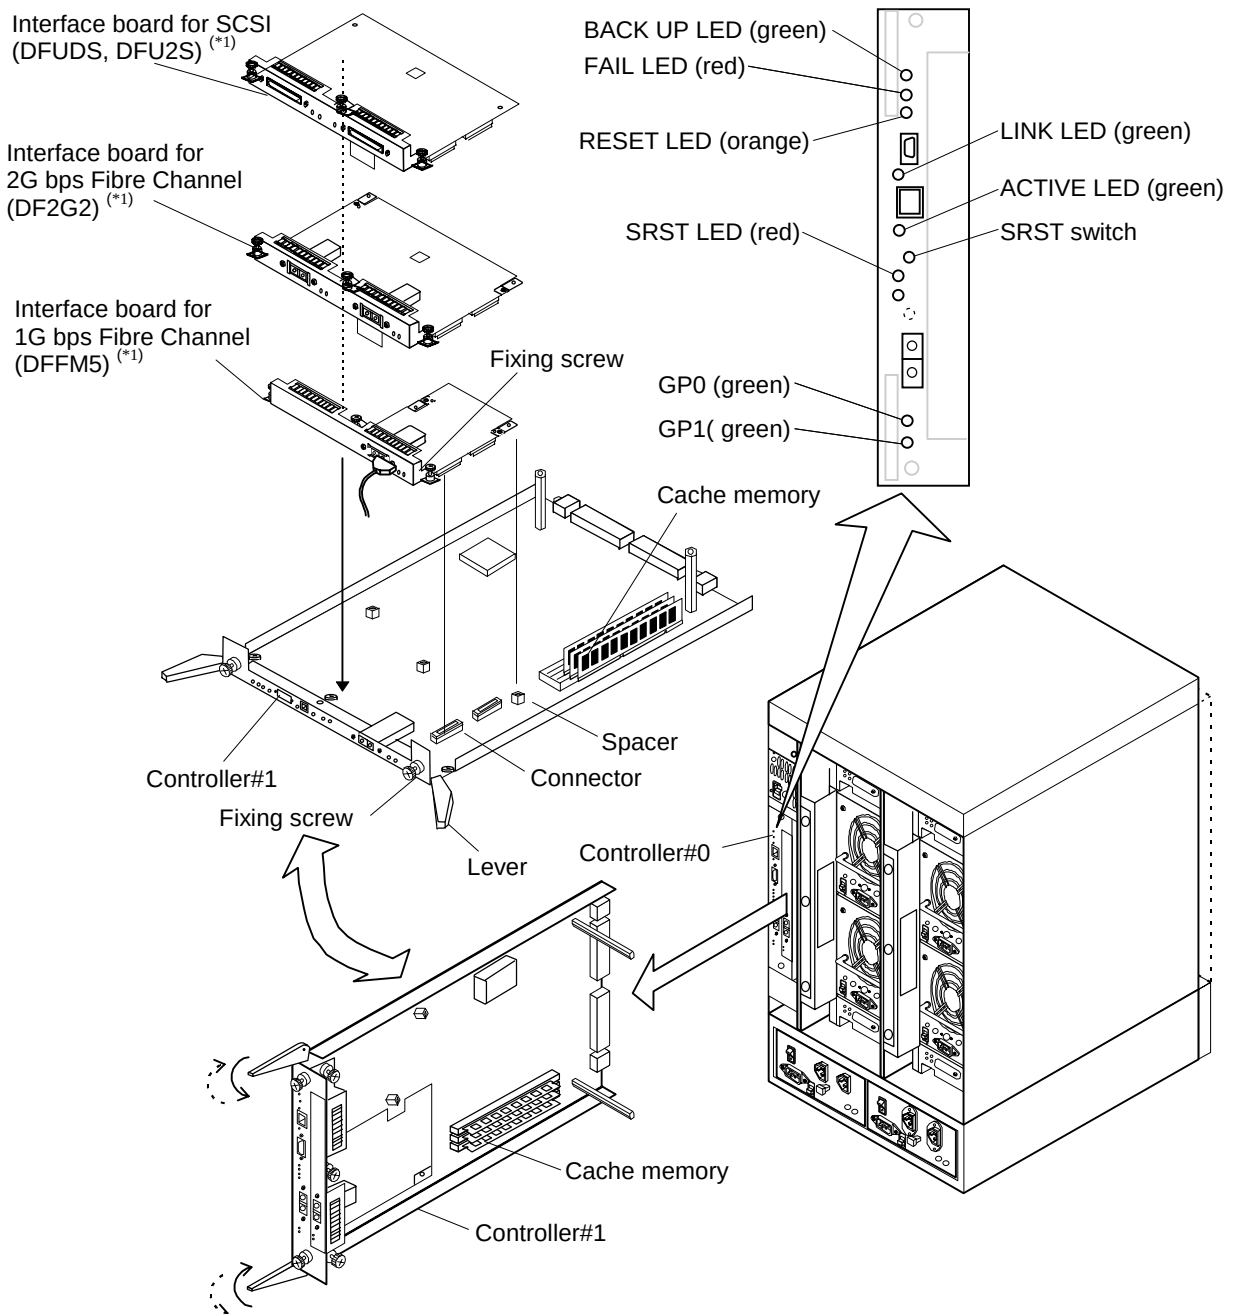

Figure 4.2.7 Replacing Interface Board
- (2) Procedure for replacement with the power turned off (See Figure 4.2.7.)